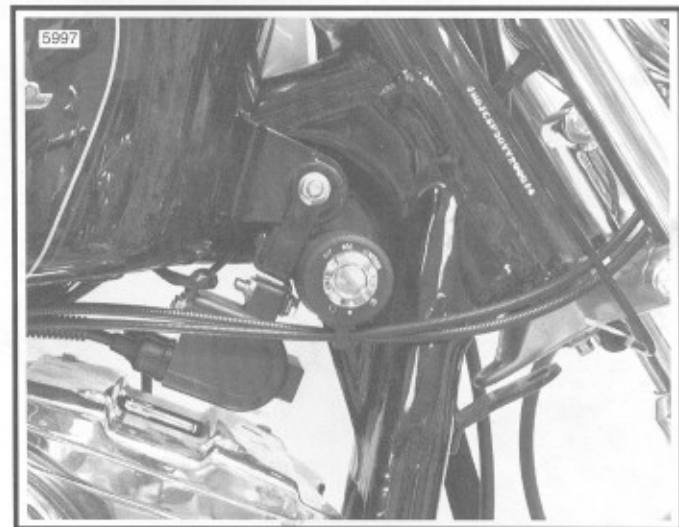

Figure 2-81. Control Cable Routing
- Install upper housing (2) over right handlebar (10) and secure to lower housing (3) using screws (1). Tighten screws to 18-24 ft-lbs (24-33 Nm) torque.
- See Figure 2-81. Route control cables forward from throttle control grip, forward of front fork upper bracket, downward between right slider tube and headlamp, rearward along right side of frame steering head, rearward along right side of frame backbone into retaining clip on ignition switch housing, downward to carburetor.